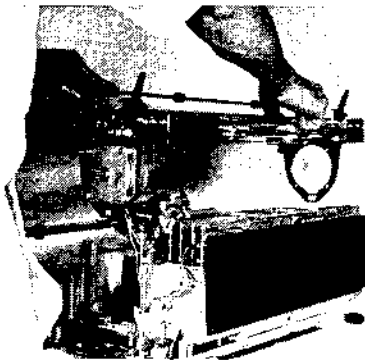

Figure 5-8 CARRIER SYSTEMS REMOVAL - C
6. Carefully lift the Carrier Subassembly, which includes the paper feed drive motor), free of the printer's main frame as shown in Figure 5-8. Be sure the motor's wires are free and not caught in the wire bundle.
2. Carefully lower the Carrier Subassembly into position on the printer's main frame. Refer to Figure 5-8.